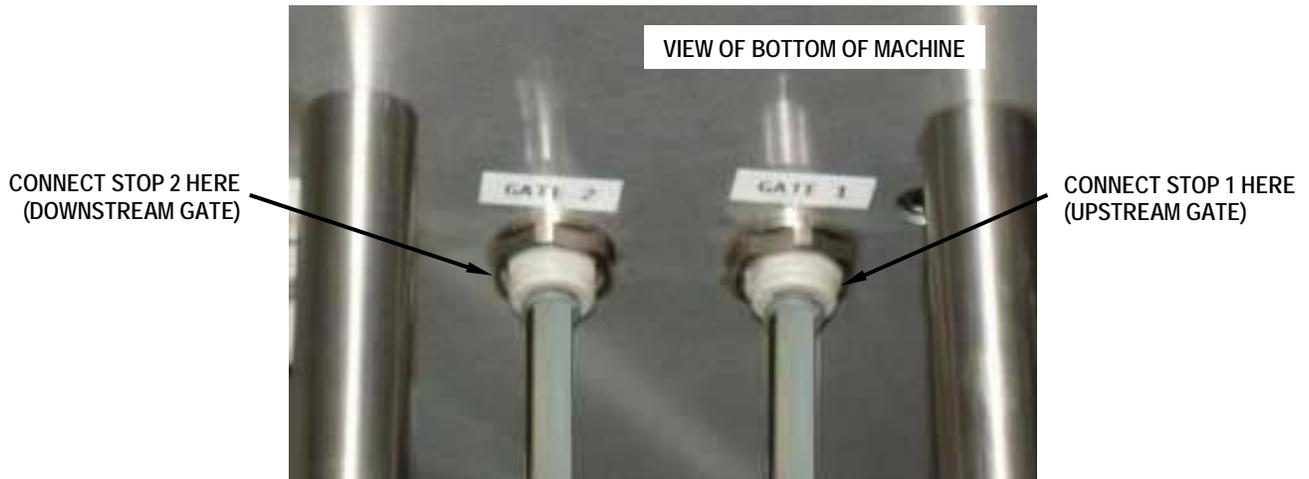

Figure 3.2
- ❑ Connect the Bottle Stop Gate air lines (fig. 3.2). Standard fitting is for ¼” O.D. tubing.